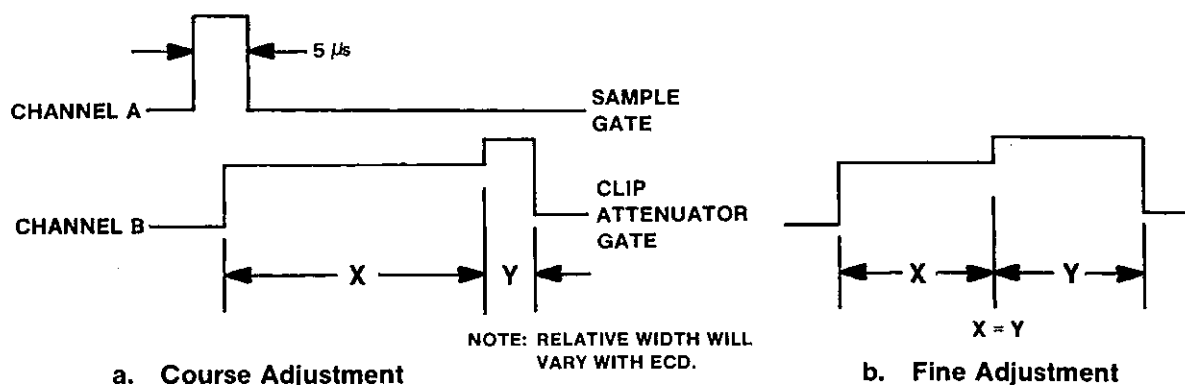

Figure 2.19. Clip Attenuator Waveform Adjust
- e. Adjust R10 on the Clip Attenuator module so that the Sample Gate overlaps with the leading edge of the Clip Attenuator Gate (see Figure 2.19.a).
- f. Monitor only the Clip Attenuator Gate and adjust R10 so that  $X=Y$  (see Figure 2.19.b).